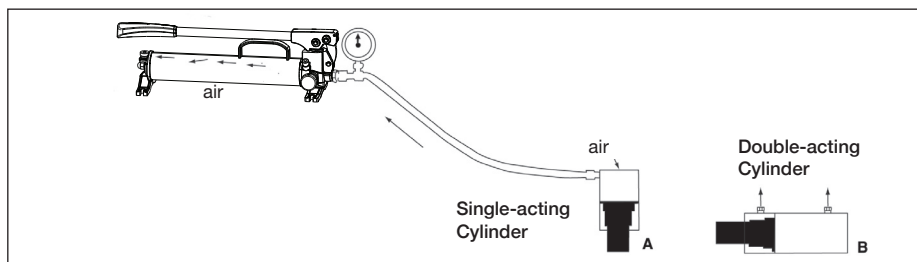

Figure 11, Air Removal
- Position pump in the horizontal position at higher elevation than cylinder. See Figure 11.